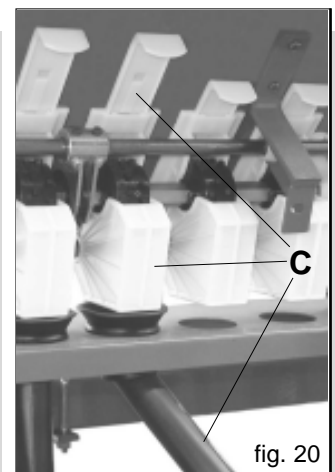

fig. 20
- unscrew the nut (A) and the screws (B).
- Make sure that only the sliding doors of the distributors that have the telescoping tube (Fig. 20, C) are open; all the others must be closed.